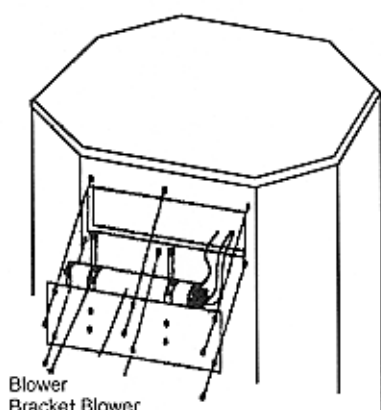

Figure 15-F-Attaching Brackets to Blower and Mounting Blower
5. Attach the two mounting brackets to blower housing using four screws provided in blower kit (2 for each bracket) (see Figure 15-F). Tighten screws securely. Place blower assembly temporarily on top panel.
15. Using the previously removed screws, mount blower assembly to stove by reattaching the knock-out center panel to rear panel (see Figure 15-F). Tighten screws securely.